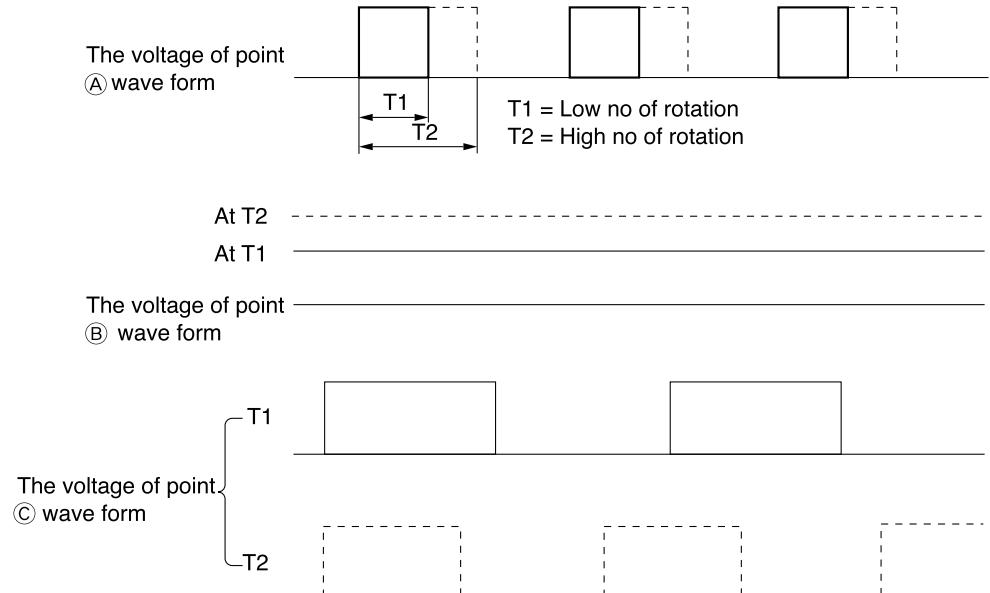

Fig. 6-2
- The 15.7 kHz PWM pulse shown in Fig.6-2 from the micro computer pin ④ is output to point (A). The width of this pulse changes with instruction number of rotations.